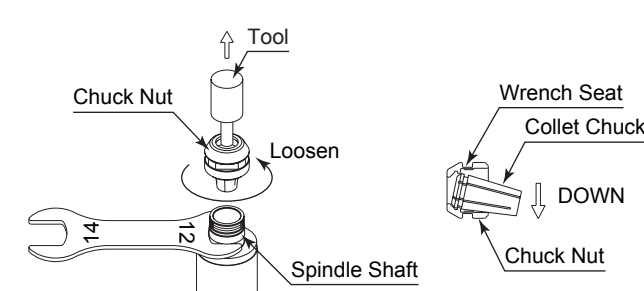

Fig. 9
- Remove the tool according to the section "7. CHANGING THE TOOL" procedure above and remove chuck nut assembly (Fig. 9).